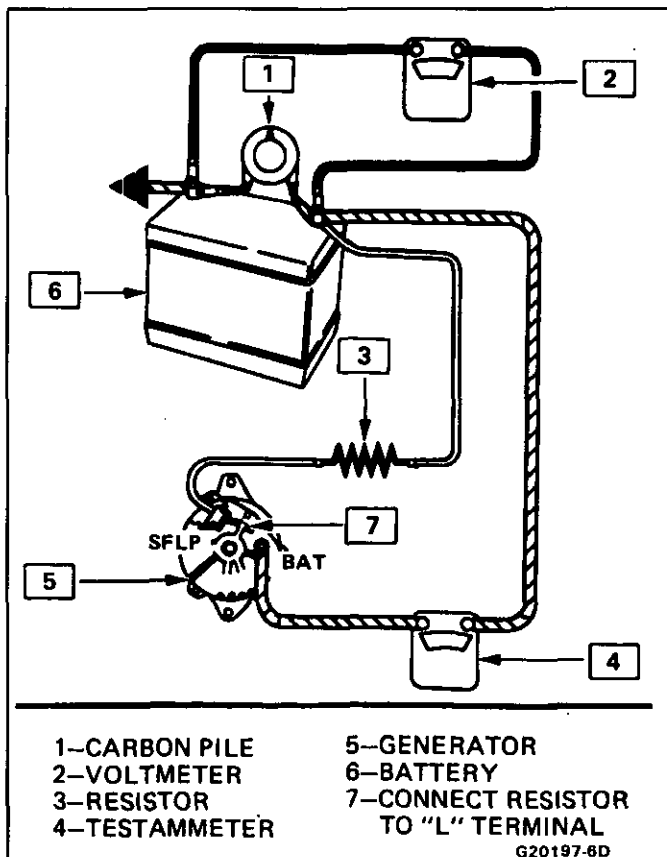

Fig. 23 Generator Bench Check - CS
1. Make connections as shown in Figure 23, except leave the carbon pile disconnected. The ground polarity of generator and battery must be the same. The battery must be fully charged. Use a 30-500 OHM resistor between battery and "L" terminal.